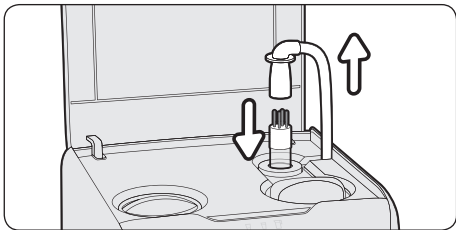

Figure 8
2. Position the lamp carefully over the housing without releasing it (Figure 8).